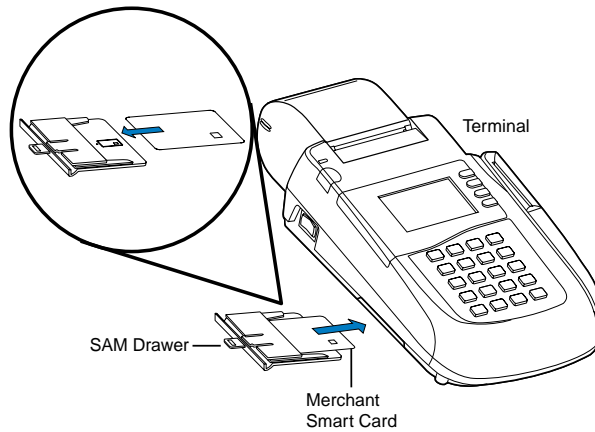

Figure 10 SAM Drawer with Merchant Smart Card
2. To install a merchant smart card, grip the SAM drawer and pinch the locking lever (Figure 10). If the drawer already
3. Slide the SAM drawer from the terminal (Figure 10).
12. Insert a standard-size merchant smart card into the SAM drawer as shown in Figure 10.